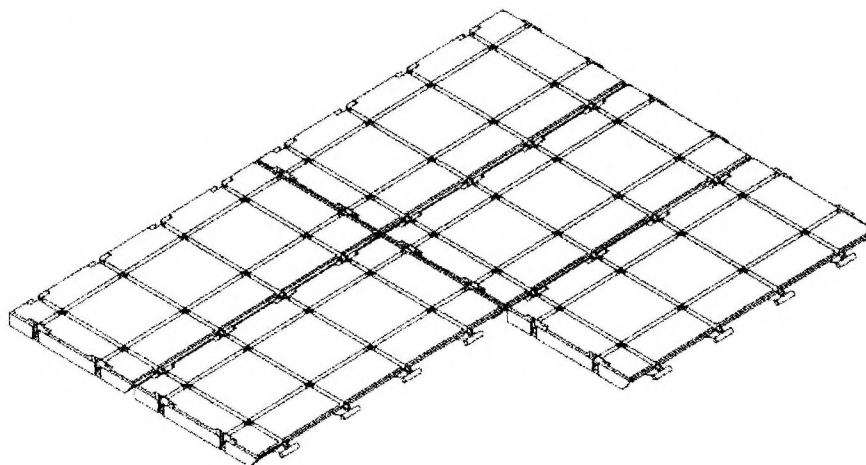

Figure 59: Installation of hard flooring
57. Place the hard flooring (Fig 59) over the groundsheet (Item 3 from Fig 50) (if used). Do not place hard flooring on hard surfaces. Flooring clips together in sections. Fold flooring back on its self to dismantle.